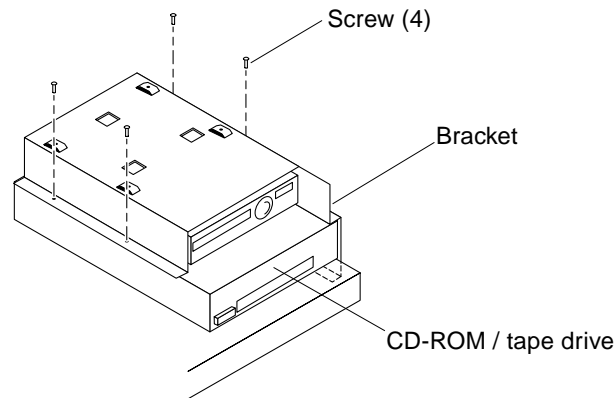

Figure 2-12 Positioning the CD-ROM/Tape Drive
1. Position the bracket on top of a flat surface, so that the CD-ROM or tape drive is flat (Figure 2-12).
2. Use a Phillips screwdriver to remove the four screws securing the CD-ROM or tape drive to the drive bracket (Figure 2-12).